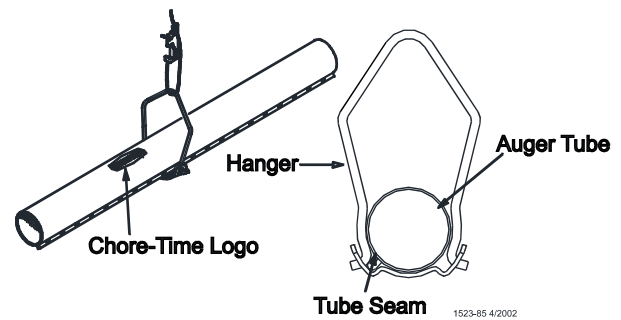

Figure 40. Hanger Installation
3. To achieve total feed drop out all along the system, the Chore-Time logo should be centered at the crown of the tubes and all the hangers should be installed as shown in **Figure 40.**
6. Install the hangers on the feed line tube at 8' [2.4 m] spacings determined by the suspension drop lines. **Figure 40** shows the proper installation of the hanger assembly. Make sure the outlet drop hole is downward when the hangers are installed, otherwise feed will not be allowed to drop into the feeder pan.